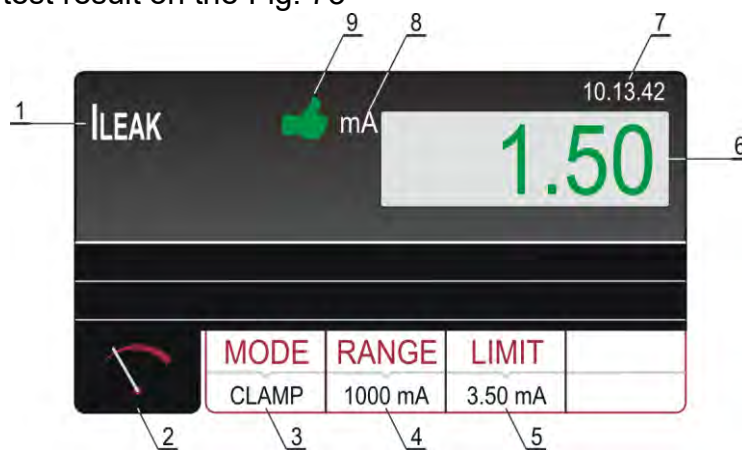

Fig. 73 : Visualization of ILEAK test result
8. Start the measurement by pressing the **START/STOP** key. The measurement will start to run and will be stopped after pressing the **START/STOP** key again. Measurement result will be currently displayed in green color if it is lower than or equal to set limit value or in red color if it is higher than set limit value. Final result will be equipped with green 🟢 symbol and with acoustic sound if it is OK or with red 🛑 symbol and with longer acoustic sound if it is not OK. See the display outlook with test result on the Fig. 73